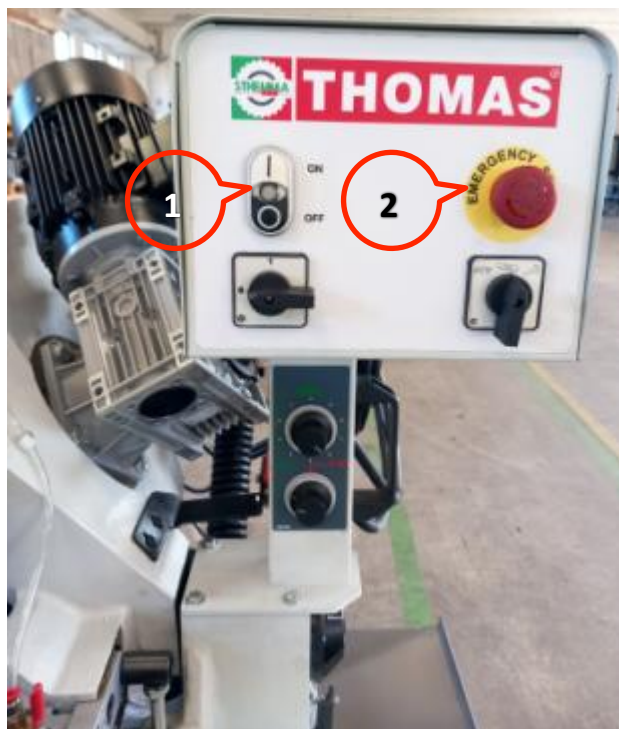
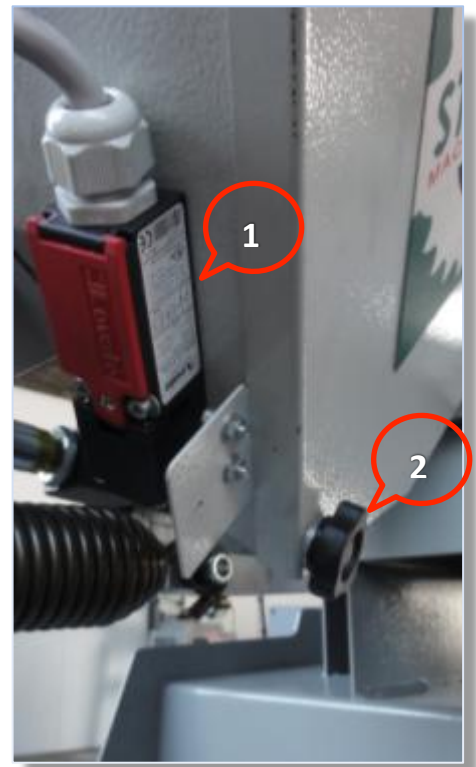

Figure 15 - Control Panel
Figure 16
- c) It is compulsory, in case of danger or before making any intervention, to stop the machine by pressing the red emergency push-button (2 Fig. 15).
- Check the functionality of the emergency stop button (2 Fig. 15) on the control panel.
- With the machine powered and ready for operation ( button light on - 1 Fig. 15) but not in operation (blade stopped), press the emergency stop button: the  button light must go off and **by pressing the blade motor control button (18 Fig. 4) the blade must not start.**
- To restart it is necessary to reset the emergency button (2 Fig. 15) and press the  button (1 Fig. 15).
- Check the functionality of the interlock switch (1 Fig.16) located on the sawframe cover.
- With the machine powered and ready for operation ( button light on - 1 Fig.15) but not in operation (blade stopped), unscrew the knobs (2 Fig. 16) to open the sawframe cover: the  button light must go off and **by pressing the blade motor control button (18 Fig. 4) the blade must not start.**
- To restart the machine it is necessary to close the sawframe cover and press the  button (1 Fig. 15).
- Open the sawframe cover unscrewing the closing knobs (2 Fig. 16).